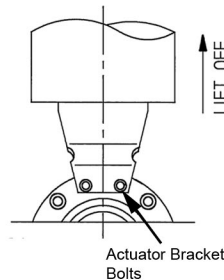

Figure 4.
8. Re-fit the actuator or handle. Check that the ball is in the correct orientation when the valve is open and closed in accordance with the handle position / actuator state (as noted in figure 4). Keep fingers clear of the valve if operating open / closed using an actuator.